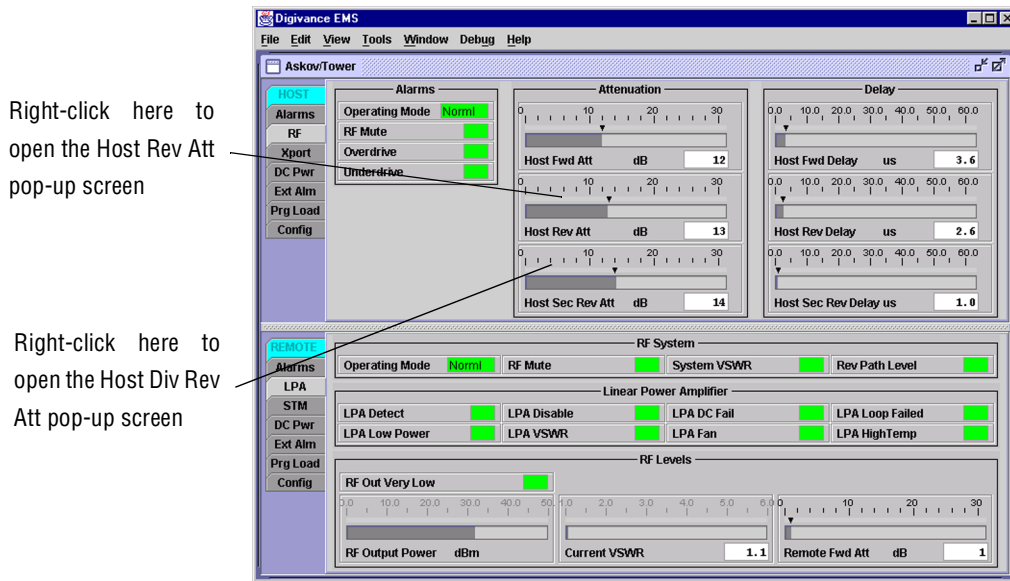
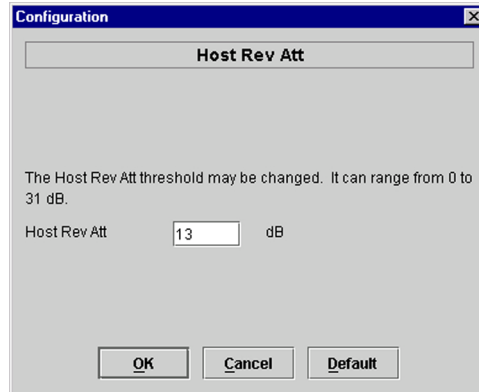

Figure 4-12. HOST RF Display
Figure 4-13. Host Rev Att Pop-Up Screen
4. Click on the **HOST RF** tab. The **HOST RF** display will open within the EMS main window as shown in Figure 4-12.
- Right-click on the **Host Rev Att** section of the display (see Figure 4-12). The **Host Rev Att** pop-up screen will open as shown in Figure 4-13.